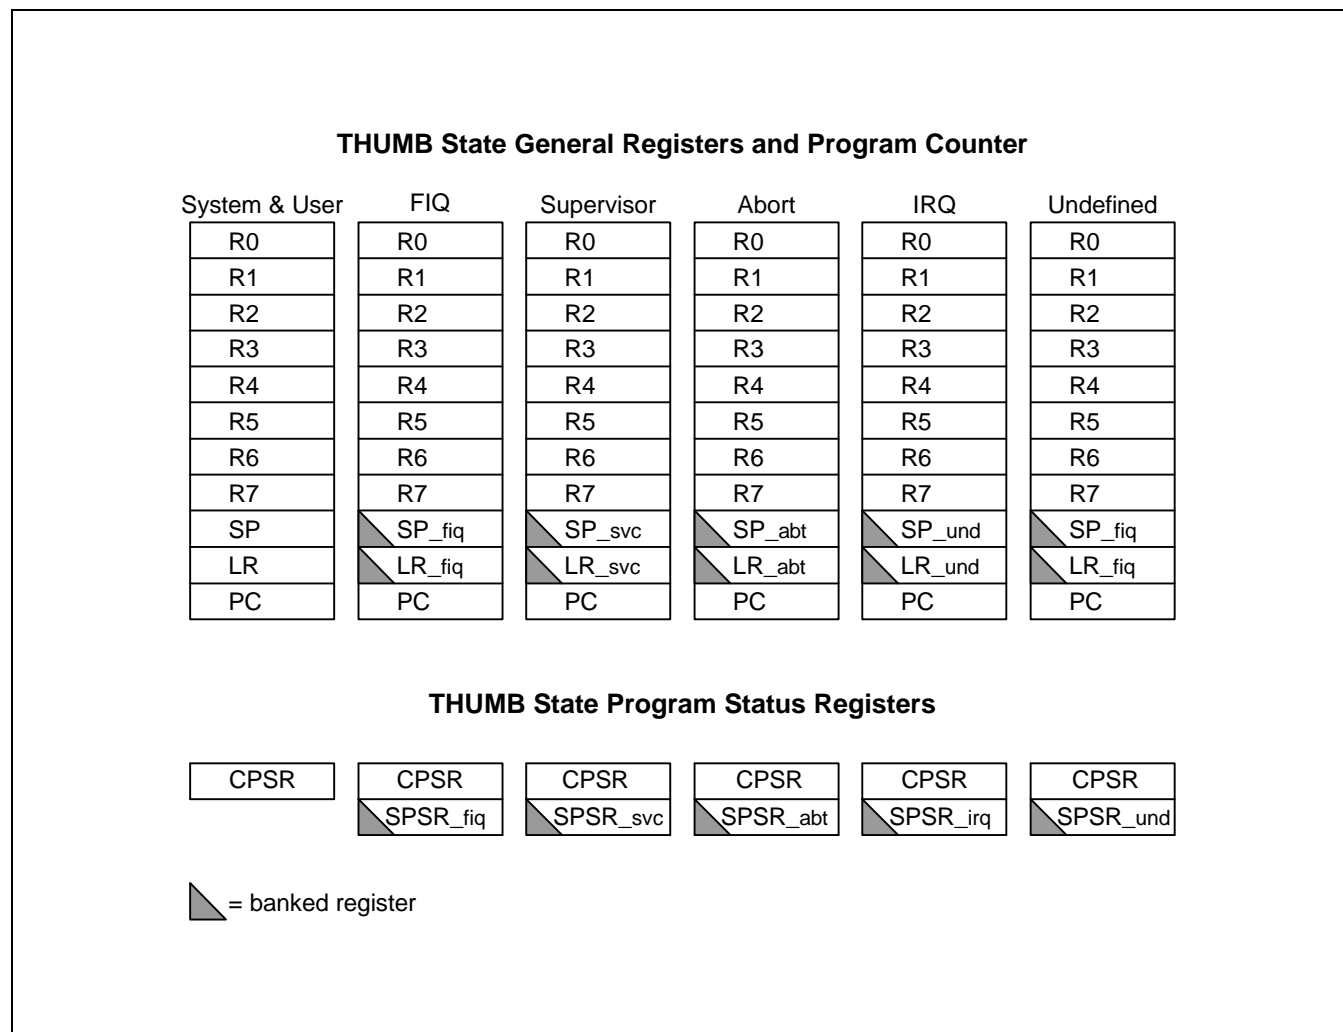

Figure 2-4. Register Organization in THUMB State
The THUMB state register set is a subset of the ARM state set. The programmer has direct access to eight general registers, R0-R7, as well as the Program Counter (PC), a stack pointer register (SP), a link register (LR), and the CPSR. There are banked Stack Pointers, Link Registers and Saved Process Status Registers (SPSRs) for each privileged mode. This is shown in Figure 2-4.